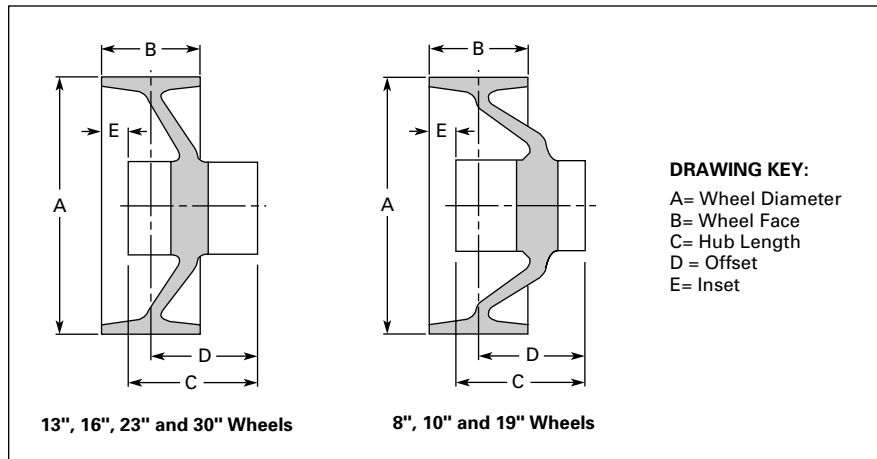

Figure 3-4. Brake Wheel Dimensions
① 400 - 600 - 800 AC motor frames all per AISE specifications. See Page 3-12 for dimensional compatibility.
② See dimensional drawing, Figure 3-4 on Page 3-11.